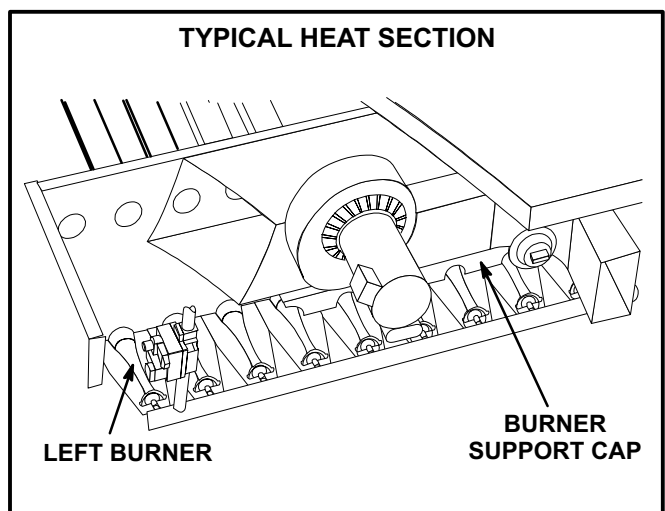

FIGURE 15
- 1- Loosen four screws and remove burner support cap. See figure 15.